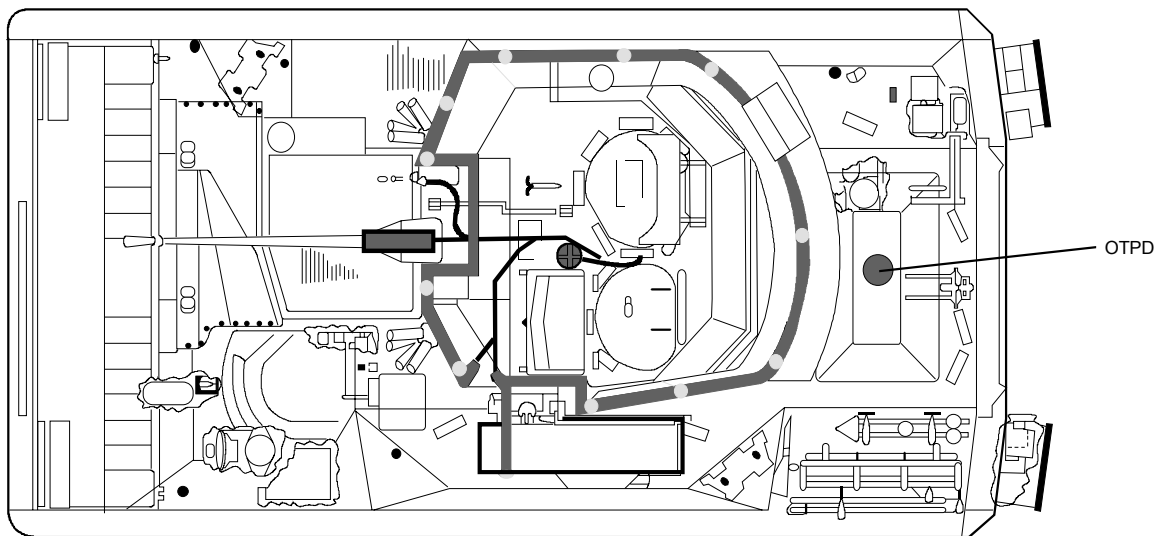

Figure 2-50. M2/M3 OTPD Installation.
- g. Attach the OTPD to the fastener tape on the weapons hatch and attach the lanyard. (See Figure 2-50.)